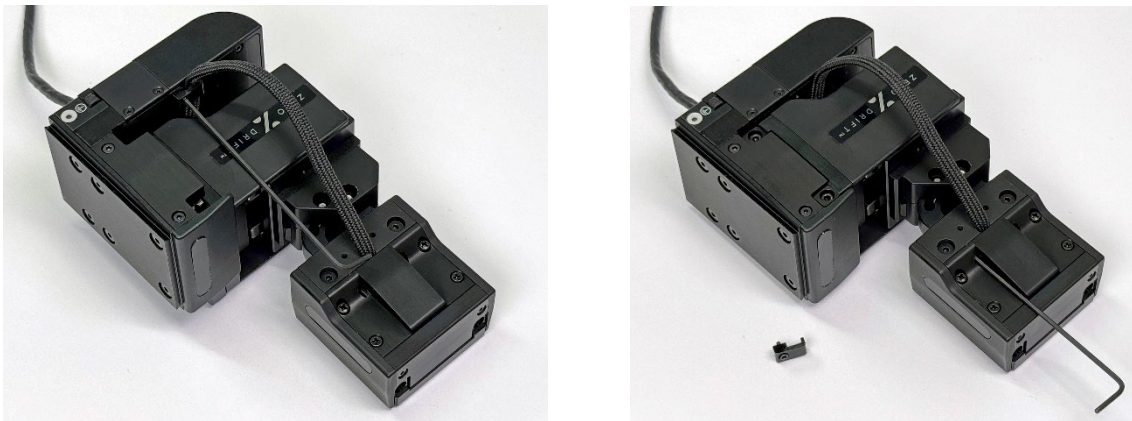

Figure 46. Remove x-axis cable clip and mounting screws.
1. Detach x-axis cable clip from the manipulator body using 1.5 mm hex key (Figure 46, left)
2. Unscrew 2 pcs of x-axis mounting screws using 1.5 mm hex key (Figure 46, right)